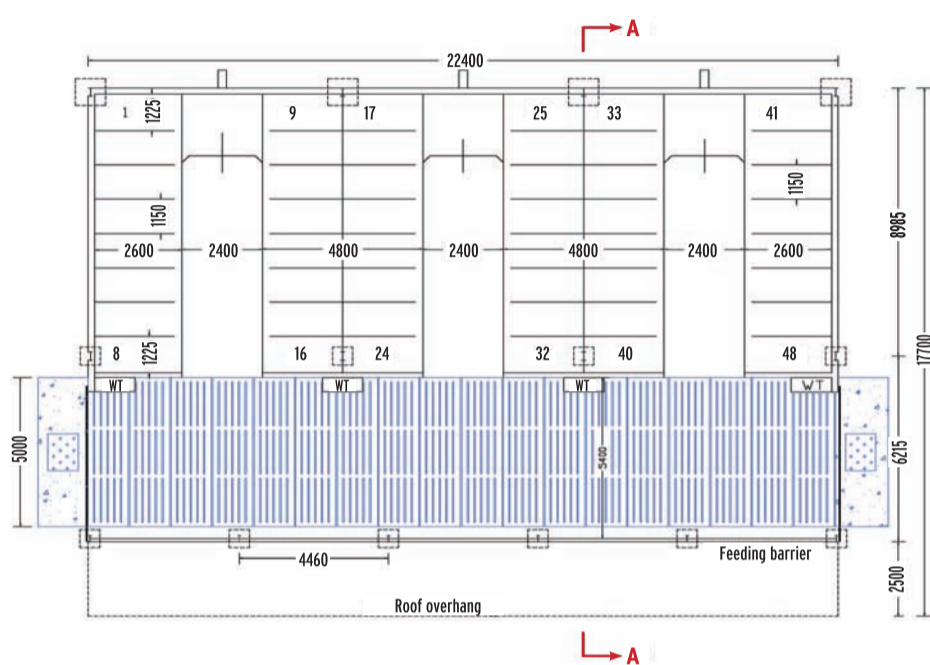

Figure 1
THE drawing in figure 1 shows a plan of a new dairy wintering unit with the cubicles perpendicular to the feeding passage. This type of design has been around for a long time. The main difference with the one shown in figure 1 is the size of the cubicles. The cubicles here are longer giving the cows more room to lunge forward getting up and lying down. The cubicles facing the wall are 2.6m long and the ones head to head are 2.4m long. This has the effect of making the whole shed that bit wider, which is good because it gives the cows more space in the shed and increases the feeding face length.
for the cows to feed on. The design details of the unit shown in figure 1 and 2 are outlined in table 1.
row is not fixed at eight either. Where there are eight cubicles per row there is no need for a crossover point as shown in figure 1.
The reason the widths are important is that you would like to have space for the longer cubicle beds as shown in figure 1. This may not be too easy in the sheds that are already the standard 22 ft. wide.
**TABLE 2 COSTING FOR THE 48 COW DAIRY UNIT SHOWN IN FIGURE 1 AND 2**